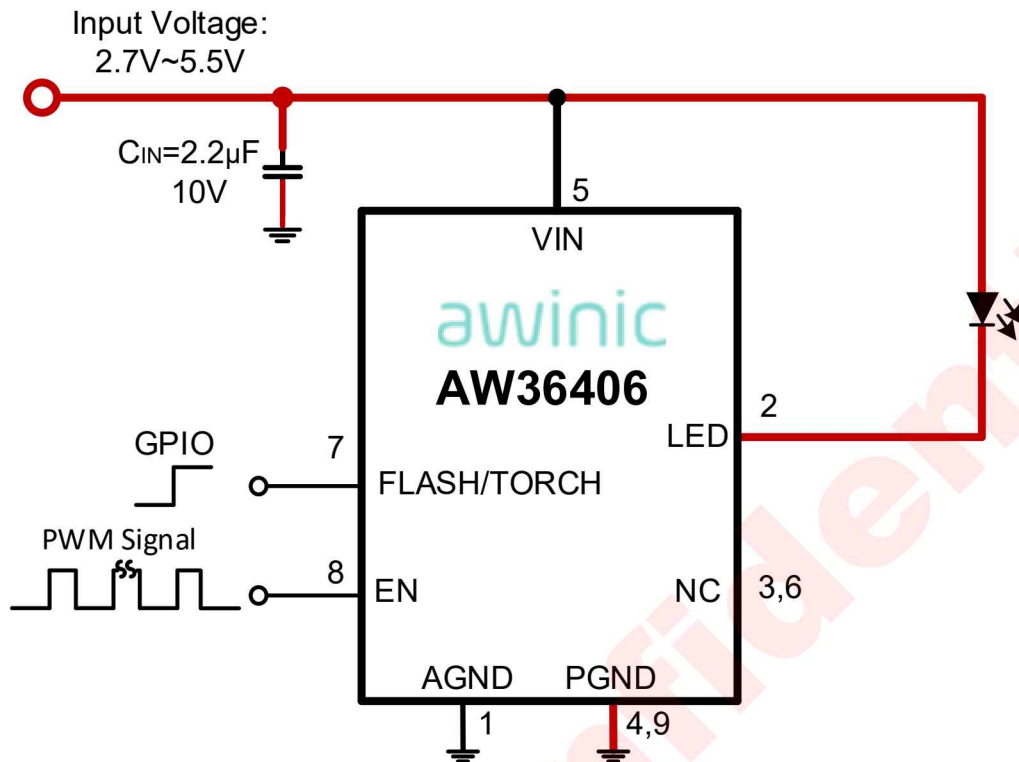

Figure 3. Application Circuit for Single LED
2. Route the power line (shown in Figure 3) as widely and shortly as possible to reduce parasitic impedance.